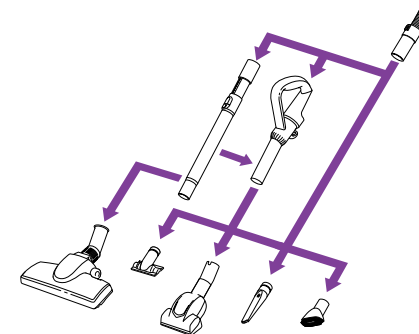

Fig. 9
- 9 Attach the floor kit handle to the flexible hose. Push it in until it is secure. (fig. 9)
- 10 Insert the telescopic tube into the end of the floor kit handle. Push it in until it is secure. (fig. 9)
- 11 Attach the desired accessory to the end of the flexible hose, floor kit handle or telescopic tube by pushing it in until it is tightly secured. (fig. 9)